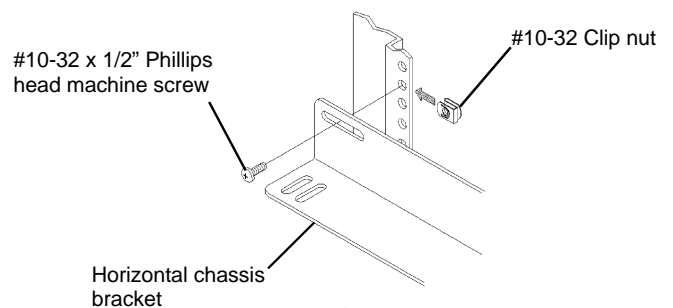

Figure 4
2. Install the Clip Nuts in the desired location on the Vertical Adapter Rails. **Figure 4**.
**NOTE:** For additional horizontal adjustments, attach the Horizontal Bracket as shown in **Figure 4**. For vertical adjustments, attach the Horizontal Bracket using holes on the other face.